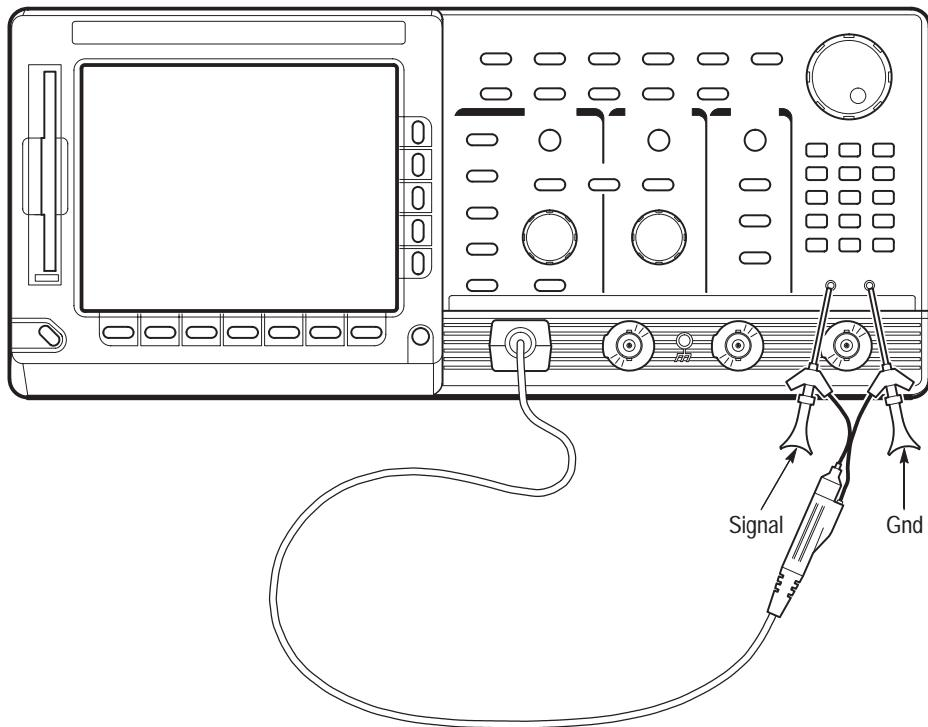

Figure 4–3: Universal test hookup for functional tests – TDS 600C shown
- a. Hook up the signal source:** Install the probe on **CH 1**. Connect the probe tip to **PROBE COMPENSATION SIGNAL** on the front panel; connect the probe ground (typically black) to **PROBE COMPENSATION GND**. If using a P6243, P6245 or P6249 probe, you may want to attach a Y-lead connector and two SMD KlipChips as shown in Figure 4–3.